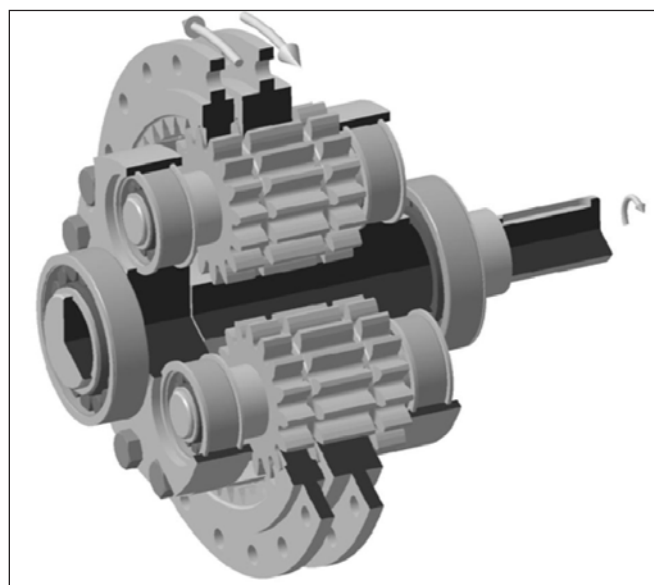

Figure 3—Schematic representation of the assembly of the test gear unit.
The deflection of the planet shafts due to the radial forces resulting from the bracing torque T_{rg} (Fig. 3), as well as the deformation of planet wheel and planet shaft due to the tilting torque resulting from the double ring gear design, can affect the load distribution across the face width in an unfavorable way. This problem especially occurs in transmissions with stepped planets. An increasing misalignment of the planets results from an increasing bracing torque. A transverse load factor of $K_{H\beta} = 1.08$ was calculated for the test gear at a bracing torque of $T_{rg} = 1,500\text{ N}\cdot\text{m}$, which corresponds to a pitting safety factor of $S_H \approx 1.0$ for the pairing of a case-hardened planet and a through-hardened ring gear. Considering the twisting of the planet carrier (FEM calculation), a transverse load factor of $K_{H\beta} = 1.09$ was calculated. However, for a maximum bracing torque of $T_{rg} = 6,000\text{ N}\cdot\text{m}$, an even better transverse load factor of $K_{H\beta} = 1.06$ was calculated (considering the twisting of the planet carrier, also $K_{H\beta} = 1.06$), despite a larger misalignment of the planets. This is due to a more favorable ratio of the maximum-force-per-tooth-width to the average force-per-tooth-width (Eq. 1). (1)